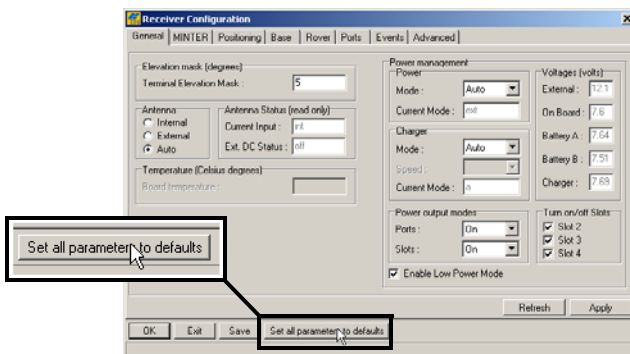

Figure 3-9. Set All Parameters to Defaults
6. Click **Set all parameters to defaults** (Figure 3-9).